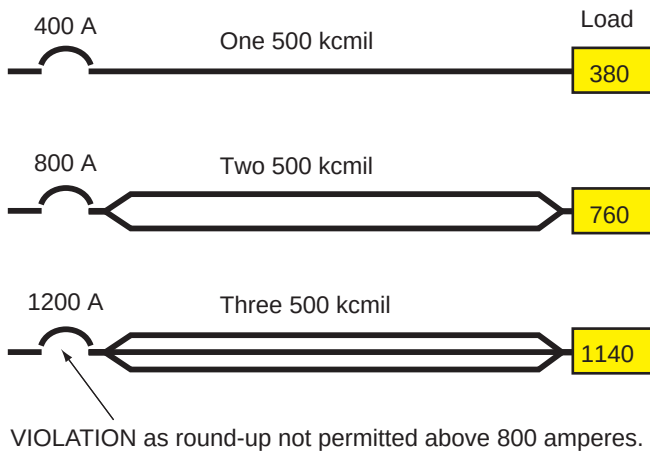

FIGURE 17-1 NEC 240.4(B) allows round-up provisions through an 800-ampere overcurrent device. (Delmar/Cengage Learning)
When the ampacity of a conductor does not match the ampere rating of a standard fuse or does not match the ampere rating of a standard circuit breaker that does not have an overload trip adjustment above its rating, the *Code* permits the use of the next higher standard ampere-rated fuse or circuit breaker. The three conditions in NEC 240.4(B) must be complied with. Adjustable trip circuit breakers were discussed previously. See NEC 240.4(B) and Figure 17-1.
When the ampere rating of a fuse or of a circuit breaker that does not have an overload trip adjustment exceeds 800 amperes, the conductor ampacity must be equal to or greater than the rating of the fuse or circuit breaker. The *Code* allows the use of fuses and circuit breakers that have ratings less than the standard sizes as listed in NEC 240.6(A). Adjustable trip circuit breakers were discussed previously. See NEC 240.4 and Figure 17-1.